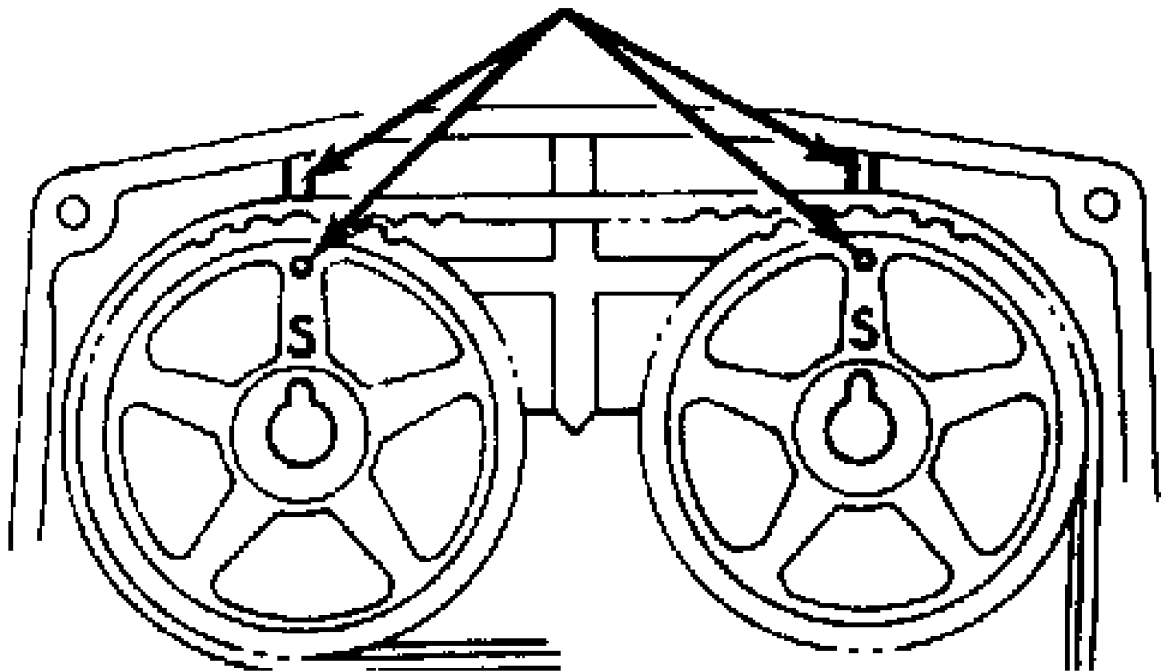

Fig. 9: One-Hole Type Camshaft Timing Pulley Alignment Marks
5) On both engines, install timing belt on pulleys. If reusing old belt, align marks made during removal. Be sure "S" mark on timing pulley faces outward. Align timing pulley mark with No. 3 timing belt cover mark. Install timing pulleys with belt. Match camshaft knock pin with camshaft timing pulley hole. See Fig. 9. Install knock pin.